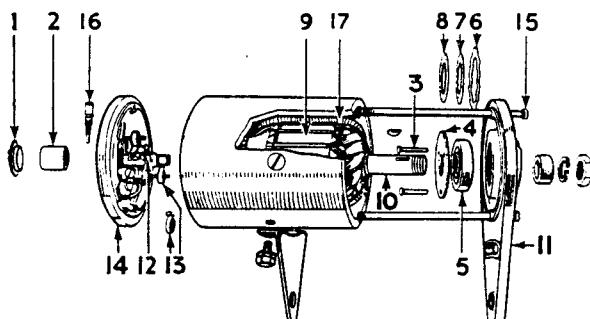

FIG. 6
**Note :** The latest type of end bracket is not an integral welding, and the support bracket must be removed by unscrewing three setscrews before the withdrawal of the through bolts (15), which are illustrated in Fig. 6.
- When replacing field coils (17) Fig. 6, an expander should be used so as to press the pole shoes into position. A few taps on the outside of the dynamo housing with a copper faced mallet will assist the expander to seat the pole shoes. When the pole shoes are finally home, fully tighten the fixing screws and caulk to lock them in position.
- Remove protective cap (1) Fig. 6, at the outside end of the bracket.
1. Knock out the three rivets (3), Fig. 6, which secure the bearing retaining plate (4) to the end bracket and remove the plate.
2. Press the bearing (5) out of the end bracket and remove the corrugated washer (6), felt washer (7) and oil retaining washer (8).
Before refitting the dynamo to the tractor, unscrew the lubricator (16), Fig. 6, on the end of the dynamo, lift out the felt pad and spring, and half fill the lubricator with H.M.P. grease.